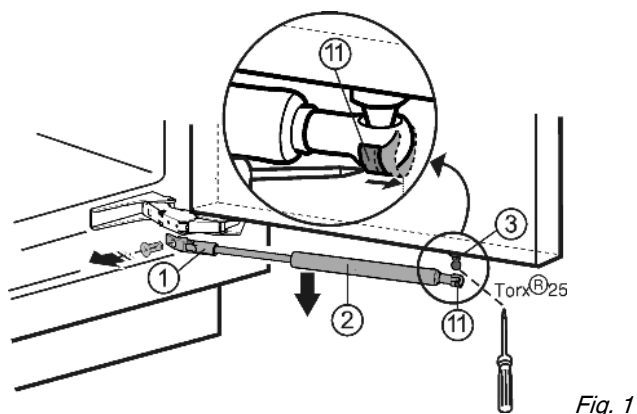

Fig. 1
- ▶ Push tension spring Fig. 1 (11) outwards, using a screwdriver.
- ▶ Lower soft stop mechanism Fig. 1 (2) for removal.
- ▶ Unscrew holder Fig. 1 (1).
- ▶ Unscrew the ball stud Fig. 1 (3) (Torx® 25).